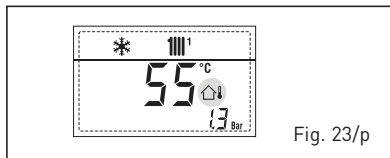

Fig. 23/p
- SAFETY THERMOSTAT INTERVENTION FIRST MIXED ZONE "ALL 20" (fig. 23/q)